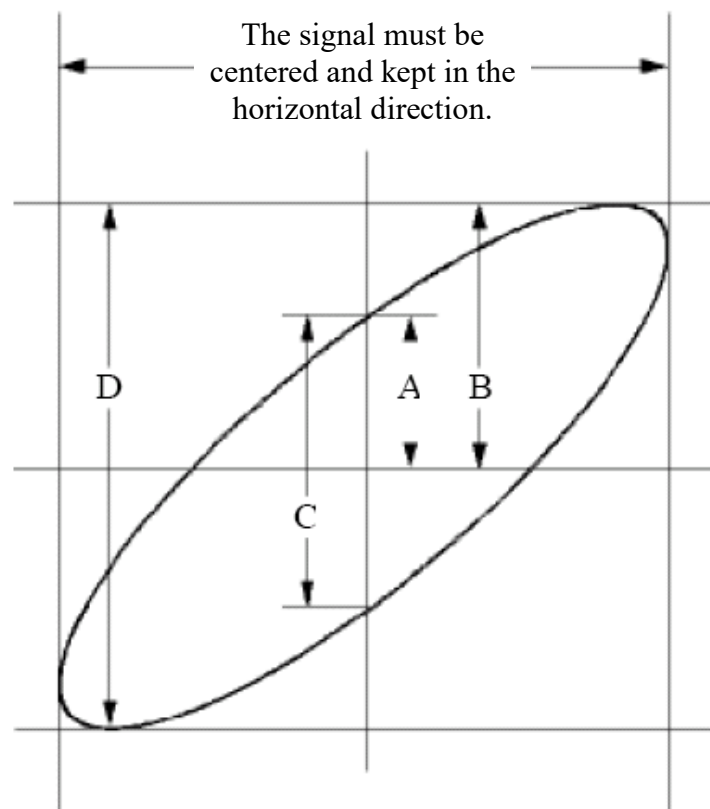

Figure 8-6 Lissajous Graph
- (4) Push the **Autoset** button, with the oscilloscope turning on the signals of the two channels and displaying them in the screen.
- (5) Push **CH1** button to select CH1, turn the **Vertical Scale** knob, and then push **CH2** button to select CH2, turn the **Vertical Scale** knob, making the amplitudes of two signals equal in the rough.
- (6) Push the **Display** button and recall the Display menu.
- (7) Select **XY Mode** in the bottom menu. Select **Enable** as **ON** in the right menu. The oscilloscope will display the input and terminal characteristics of the network in the Lissajous graph form.
- (8) Turn the **Vertical Scale** and **Vertical Position** knobs, optimizing the waveform.
- (9) With the elliptical oscillogram method adopted, observe and calculate the phase difference (see *Figure 8-6*).